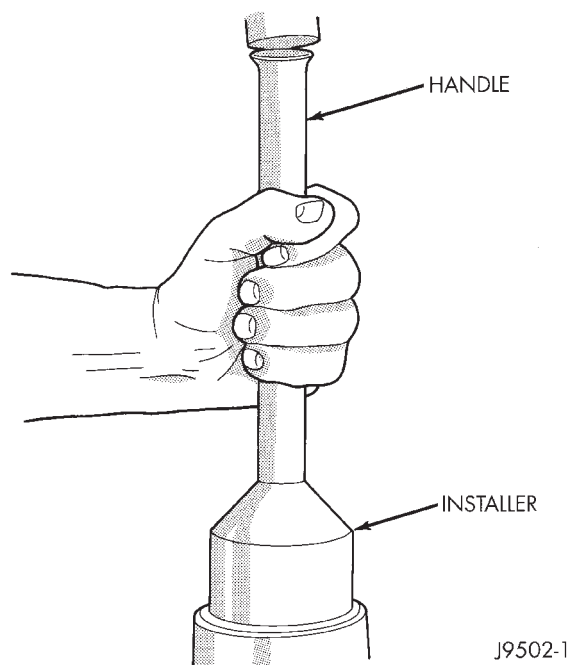

Fig. 32 Pinion Seal Installation
(3) Install pinion front bearing, oil slinger. Apply a light coating of gear lubricant on the lip of pinion seal. Install seal with Installer D-163 and Handle C-4171 (Fig. 32).